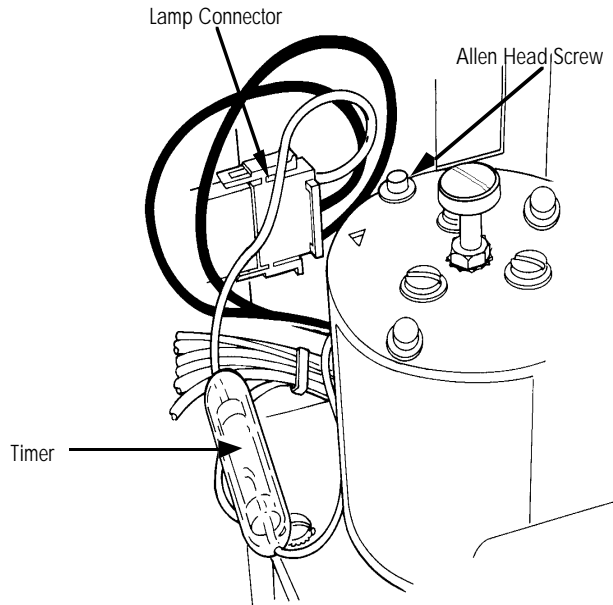

Figure 5-12 Lamp Assembly and Connections
Before you replace the lamp, check the lamp timer (see Figure 5-12).
2. Remove the protective cage and disconnect the lamp connector from the lamp interlock cable (Figure 5-12).
Figure 5-12 illustrates the lamp assembly connections.
3. From the top of the lamp assembly, remove the three Allen-head screws and flat washers (Figure 5-12).
7. Plug the lamp connector into the interlock cable assembly (see Figure 5-12).